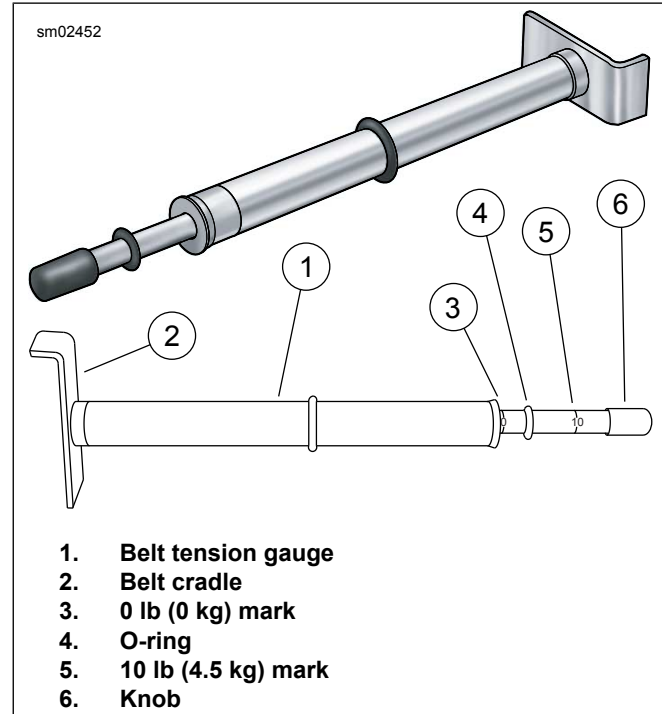

Figure 54. Belt Tension Gauge
3. See Figure 54. Measure belt deflection using: